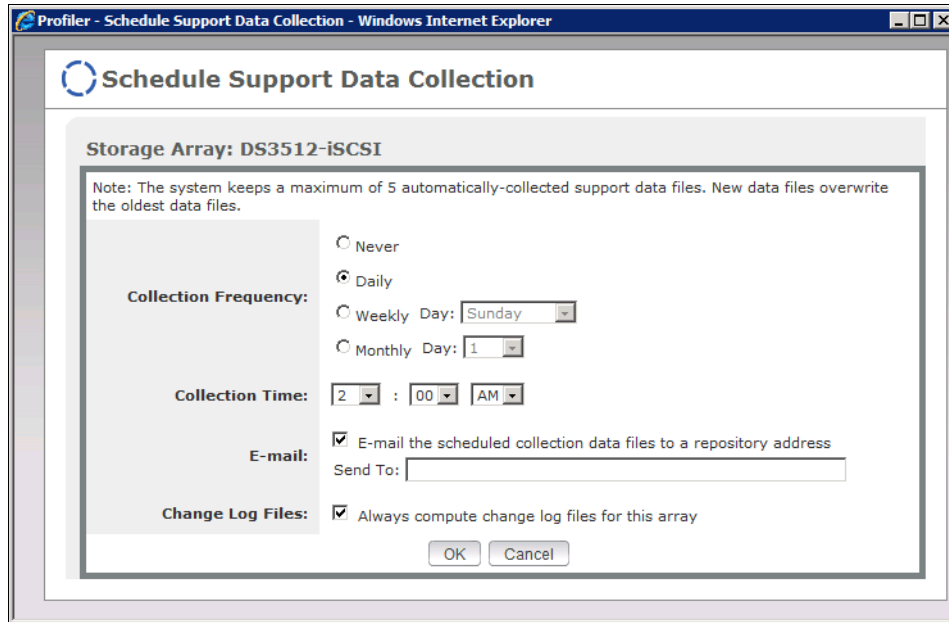

Figure 14-26 Schedule Support Data Collection
- Click the calendar icon to schedule the times that the support data collection will occur, as shown in Figure 14-26 on page 346.